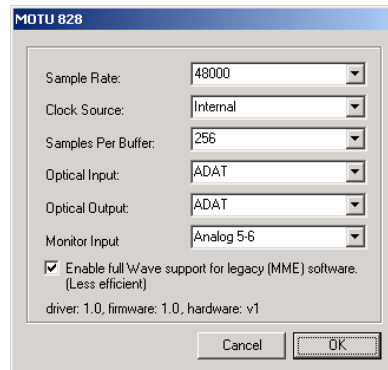

Figure 5-1: The MOTU 828 Console gives you access to all of the settings in the MOTU 828 hardware.
If the *ADAT Optical* setting does not appear in the menu, it means that the MOTU 828's optical input is currently either turned off or set to the *TOSLink* format. In either case, choose the *ADAT optical* format from the Optical input menu (Figure 5-1 on page 31).
*optical* format. In either case, choose the *TOSLink* format from the Optical input menu (Figure 5-1 on page 31).
If the *S/PDIF* setting does not appear in the menu, it means that the MOTU 828's optical input is currently set to *TOSLink*. To make it appear again, either disable the Optical input or switch it to the *ADAT* optical format (Figure 5-1 on page 31).